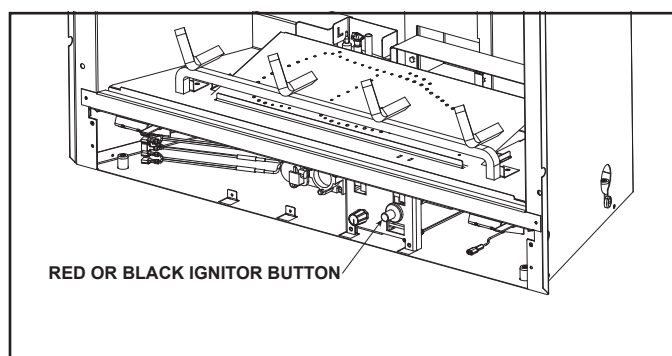

Figure 10.1 Ignitor Button
- A red or black ignitor button (as shown in Figure 10.1) indicates this appliance is standing pilot ignition.